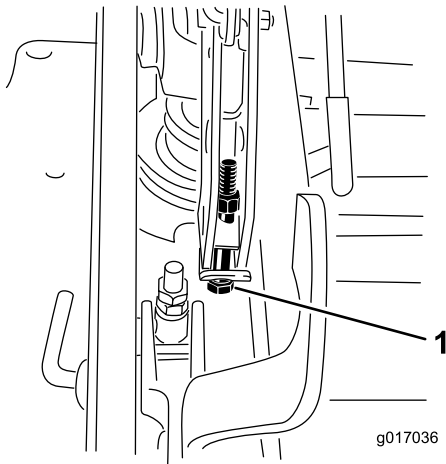

**Figure 101**
11. To adjust the single-point system, loosen the 2 bolts at the bottom of the height-of-cut plate (Figure 101).
13. Tighten the 2 bolts at the bottom of the height-of-cut plate (Figure 101).